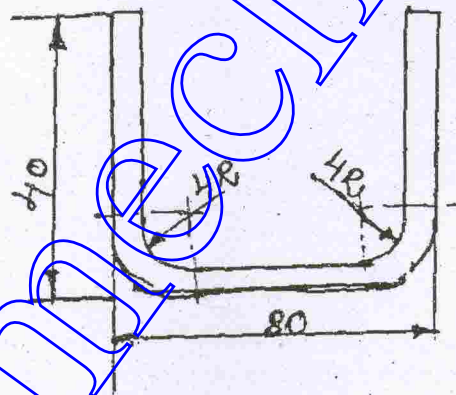

Fig. 4
14. (a) (i) Calculate the blank length to make the part shown in fig4. Also determine the bending force required if the ultimate tensile strength of material is 3500 kg/cm^2 . The die radius is 8mm and the bend length is 120cm. (12)
- (ii) Discuss the salient features of forming dies. (4)